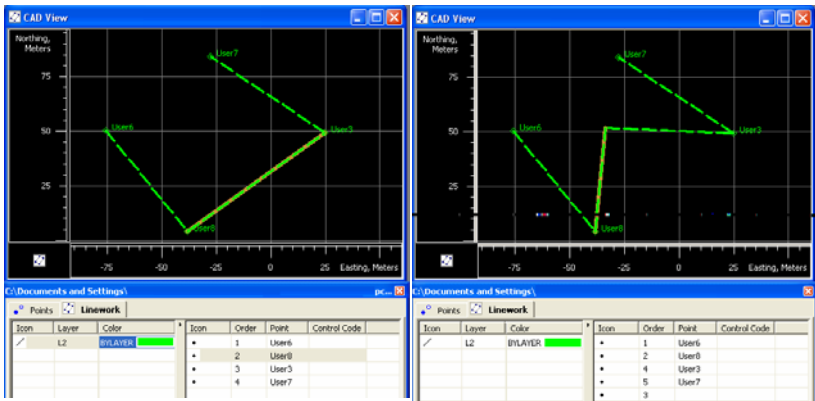

Figure 5-36. Inserting a New Point to the Selected Line
4. Click at the desired place in the CAD View. A new point will be created, the selected line will be deleted, and three points (the start and end point of selected line and the new point) will create two new segments (Figure 5-36 on page 5-33).